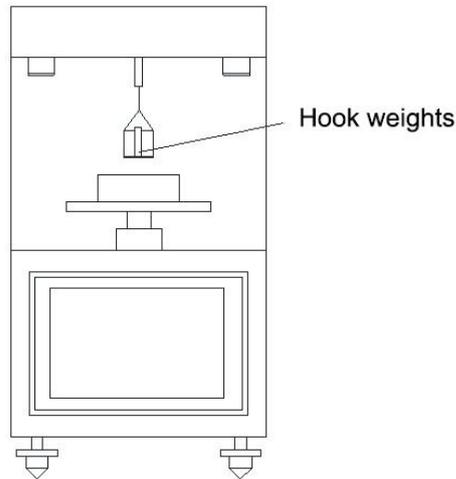

Figure 4
1.2 Click the "Reset" button and hang the 1.0g hook-shaped weight on the platinum ring according to Figure 4. The weight of the weight should display $1.000\text{g} \pm 0.010\text{g}$. If the weight of the weight is not correct, please press the "weight calibration" button to recalibrate.